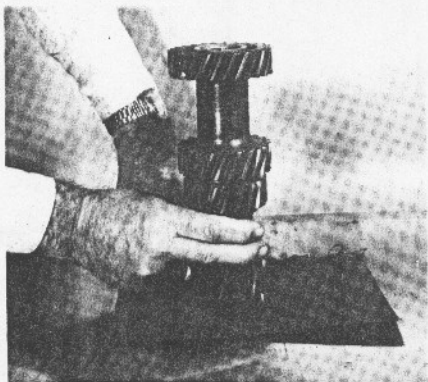

Figure 18 — Polishing front and rear surfaces of counter gear.
3. Polish front and rear surfaces of counter gear. (Figure 18, page 4-11)